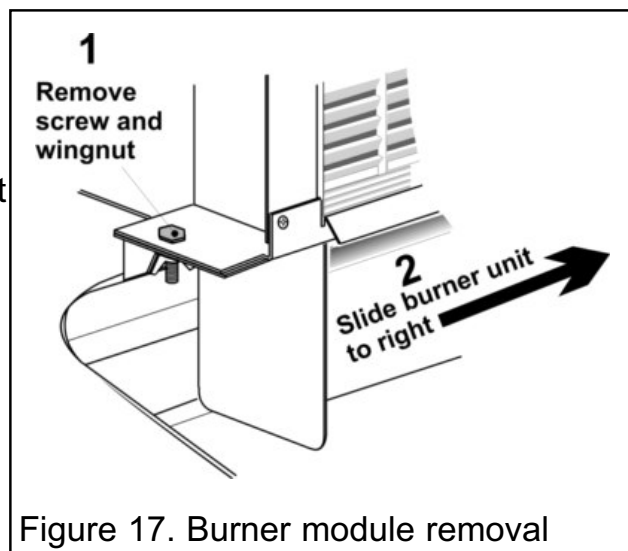

Figure 17. Burner module removal
6. Detach the left end of the burner module from the radiant box by removing one screw and a wing nut (See figure 17).
7. Carefully slide the burner module to the right to free it from the right side of the radiant box (See figure 17).
8. Detach the left end of the burner module from the radiant box by removing one screw and a wing nut (See figure 17).
9. Lift the slider arm and carefully slide the burner module to the right to free it from the right side of the radiant box (See figure 17).